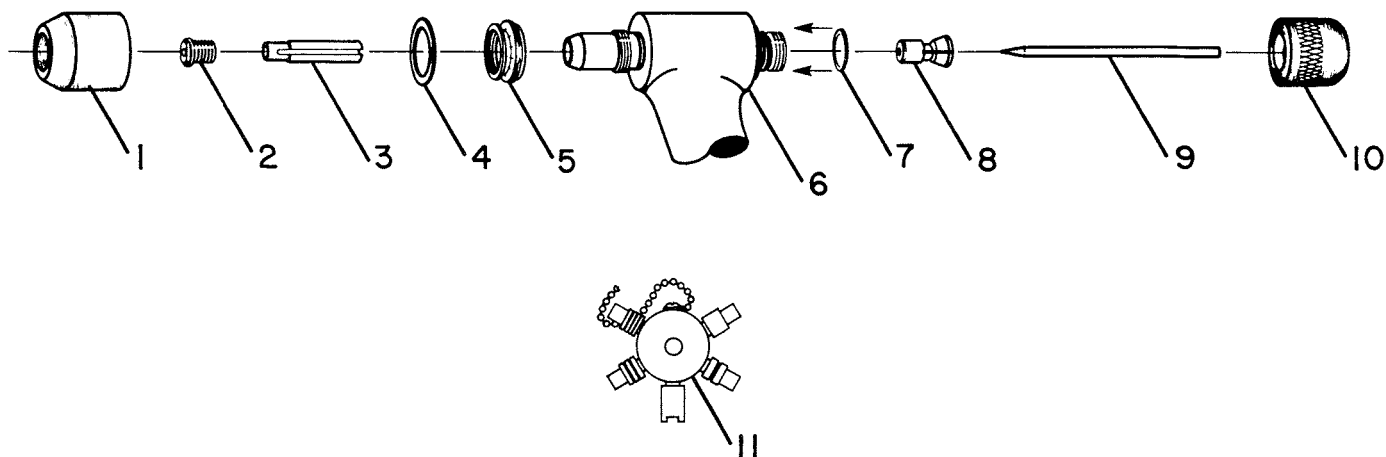

Figure 5-2 3A Torch Explosion
- Figure 5-2. 3A Torch Assembly